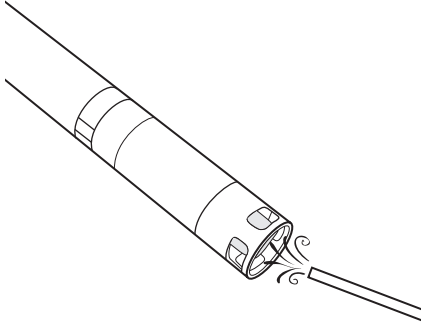

Figure 74 Ammonium and nitrate maintenance
1. Carefully clean the ammonium or nitrate sensor by rinsing with DI water followed by soaking in the high standard calibration solution (Figure 74).